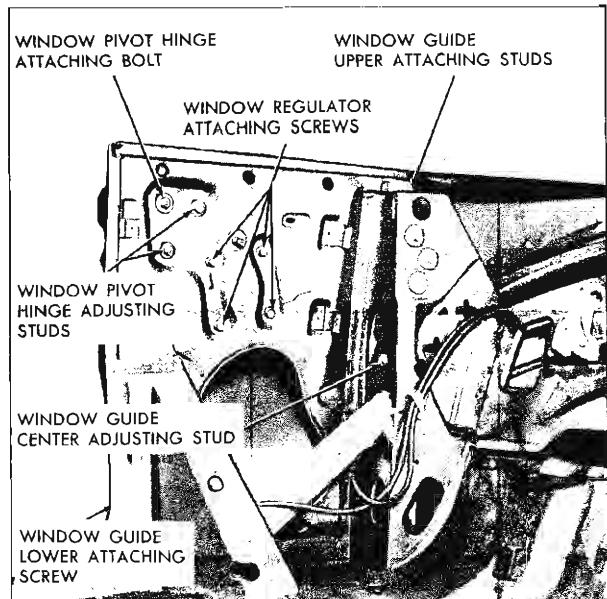

Fig. 13-6 Rear Quarter Hardware "67" Style
2. Remove window pivot bolt (Fig. 13-6).
To adjust the forward travel and up travel of the rear quarter window, loosen the window guide upper attaching stud nuts (Fig. 13-6). Adjust upper stop to
Loosen pivot bolt and both adjusting stud nuts (Fig. 13-6). Position window, as required, and tighten pivot bolt and stud nuts.
Loosen lower adjusting stud nut and slightly loosen rear stud nut (Fig. 13-6). Adjust lower stud "in or out", as required, then tighten both stud nuts.
c. Rear of window "in or out" adjustment: Loosen pivot hinge rear adjusting stud nut and slightly loosen lower adjusting stud nut (Fig. 13-6). Loosen window guide upper and center attaching screws as required, then tighten both stud nuts. Adjust window guide for proper alignment with window and tighten guide upper and center attaching screws.
3. Remove window regulator attaching screws (Fig. 13-6). Disengage roller on regulator lift arm from window lower sash channel cam and remove regulator through access hole.
2. Remove window guide upper, center, and lower attaching stud nuts and screws (Fig. 13-6).